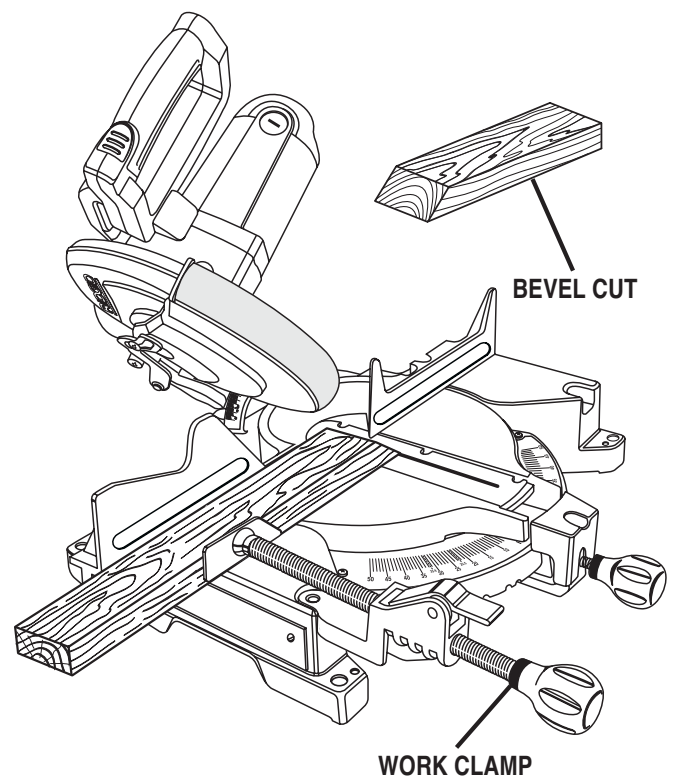

Fig. 24
- Grasp the stock firmly with one hand and secure it against the fence. Use the optional work clamp or a C-clamp to secure the workpiece when possible. *See Figure 24.*